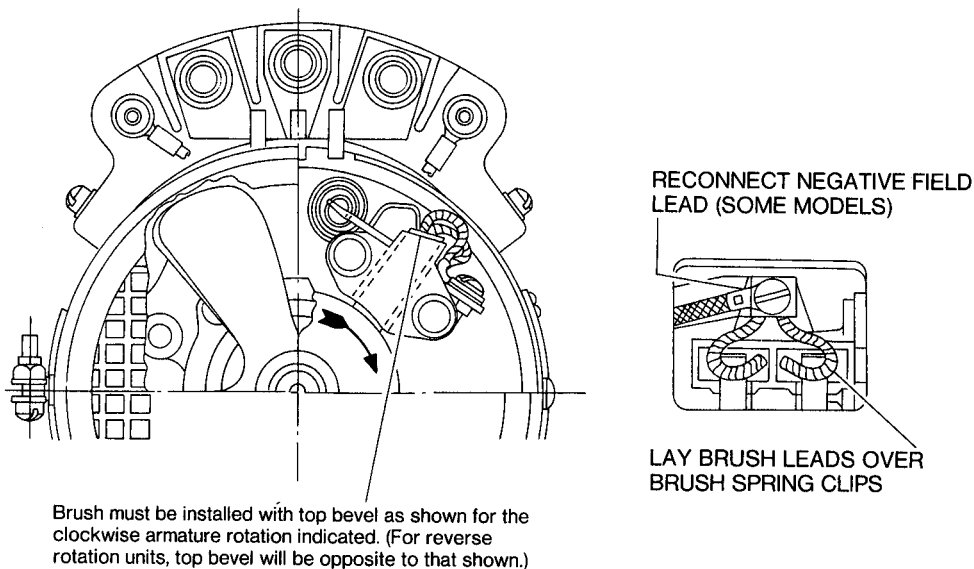

Fig. 207 - Correct Position of Brushes, Leads and Screws
- (6) Reinstall the original brushes. (Refer to Fig. 207)
- (a) Inspect the brush holders for cracks, wear and clean-liness. Carefully insert brushes in their original location on the brush holder assembly. Ensure the shorter side of the brush will be the first to contact the commutator when the armature is rotated in its normal direction (Refer to Fig. 207).